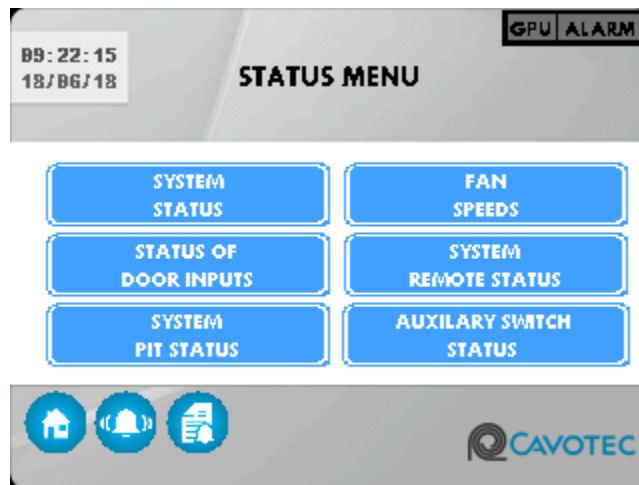

Figure 2-3. Status Menu Screen
4. On the STATUS screen shown in Figure 2-3, press FAN SPEEDS.